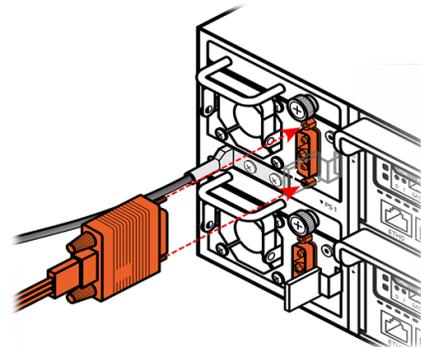

Figure 2-7. Securing the Power Cord
2. Reconnect the DC power cord to the PSU and tighten the two captive screws to secure it in place. See Figure 2-7.